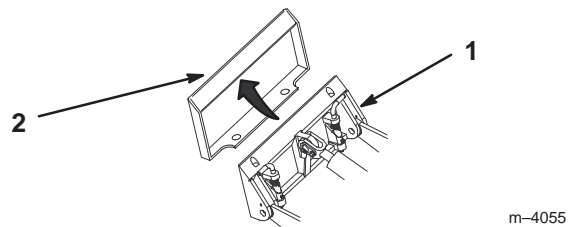

Figure 15
4. Position mount plate into the upper lip of the attachment receiver plate (Fig. 15).